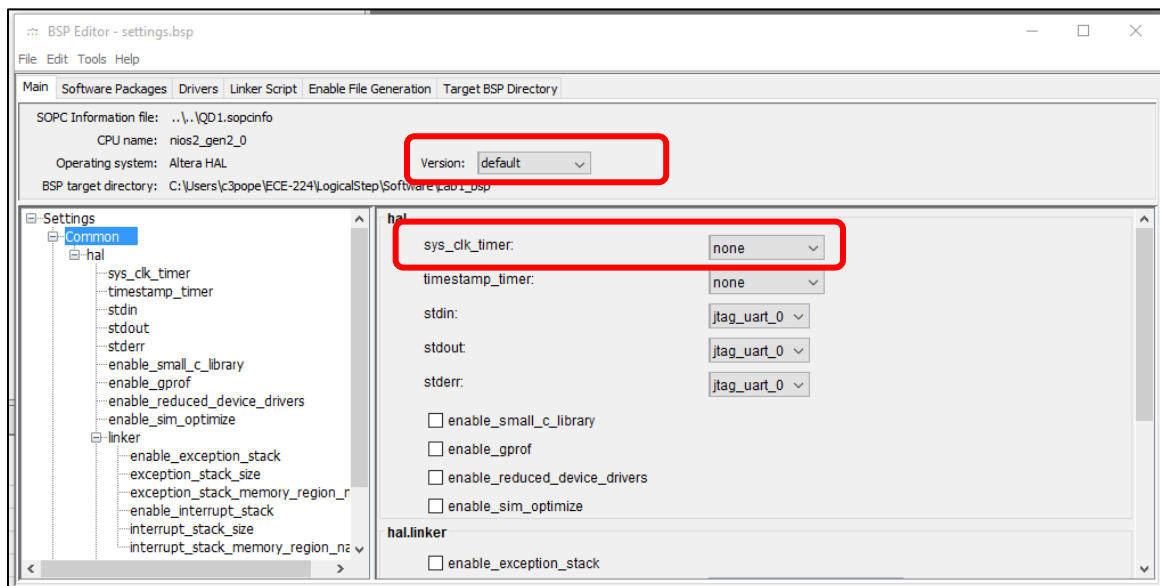

Figure 43: Changing the sys_clk_timer Settings in the BSP
2. When the BSP Editor opens, it should be on the main tab by default. Change the “sys_clk_timer” to “none” as shown in Figure 43.